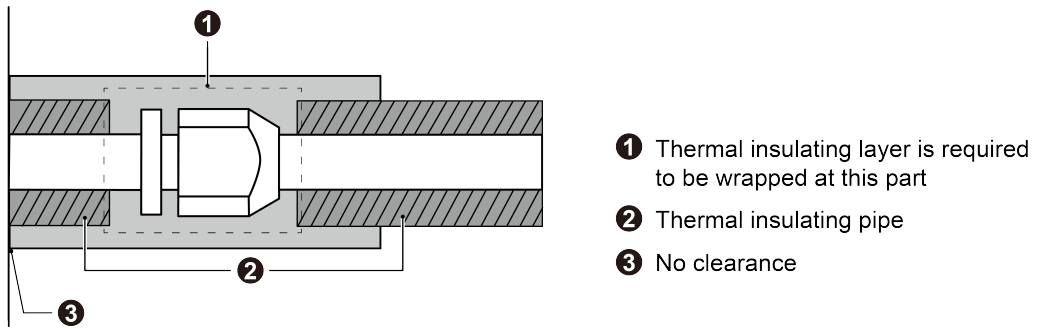
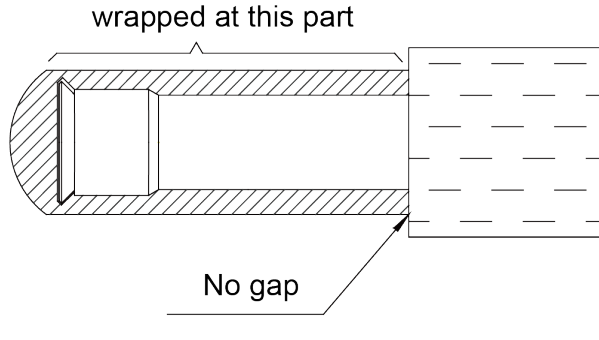
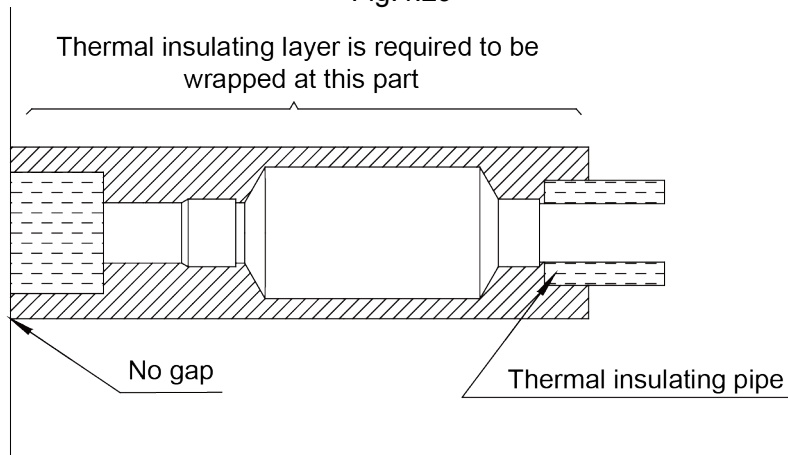

Fig.4.28
Fig.4.29
Fig.4.30
- 4) Joints of indoor and outdoor unit should be wrapped with insulating material and leave no gap to surfaces of indoor unit and outdoor unit. See Fig.4.28, Fig.4.29 and Fig.4.30.